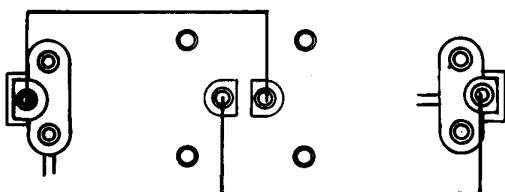

Fig. 3
4. Using the two pieces of wire provided, one red, one black, solder the red wire from positive connector to positive battery connector and the black from negative to negative. (See Fig. 3.)